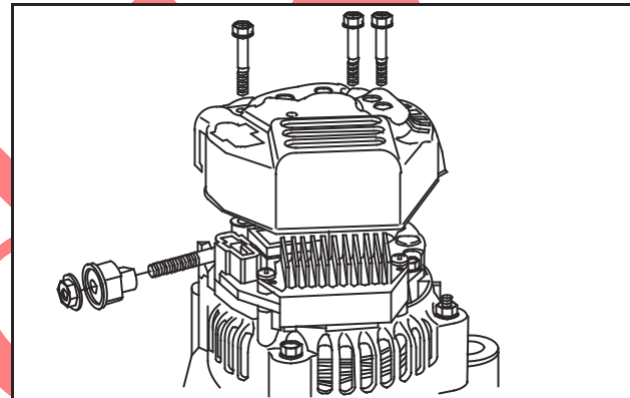

Fig. 43 – Install Cover
10. Install rear cover and three screws, Fig. 43.